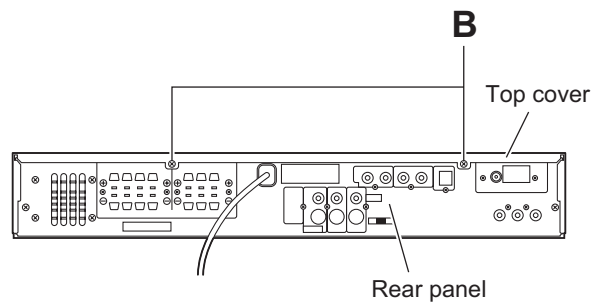

Fig.3
- (2) From the back side of the main body, remove the two screws B attaching the top cover. (See Fig.3.)